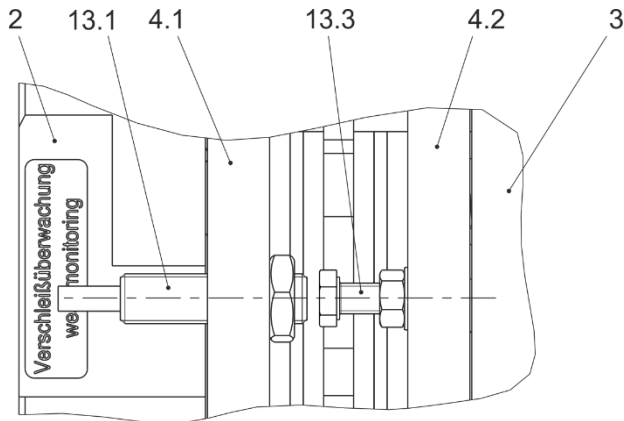

Fig. 5
Only one proximity switch for wear monitoring (13) is required per ROBA-stop®-stage brake, which is mounted onto the brake 1 (Fig. 5).